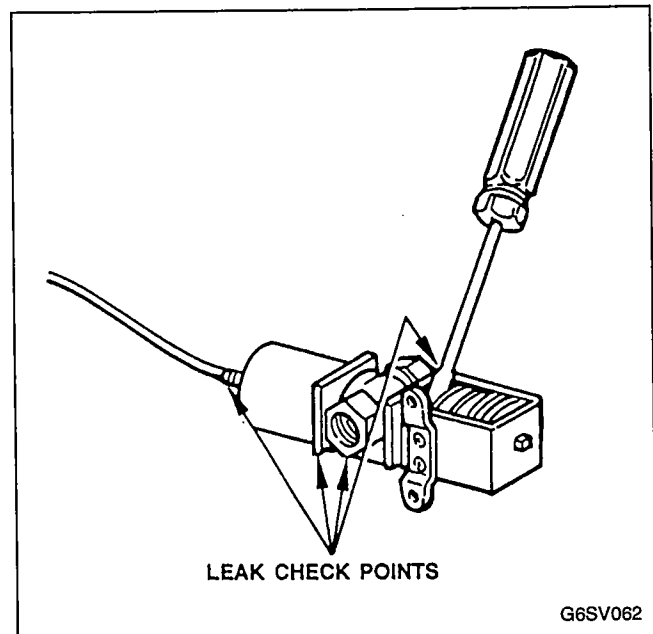

FIGURE 69. WATER REGULATING VALVE LEAK CHECK POINTS
2. Leak check where cap tube meets the bellows housing. See Figure 69.